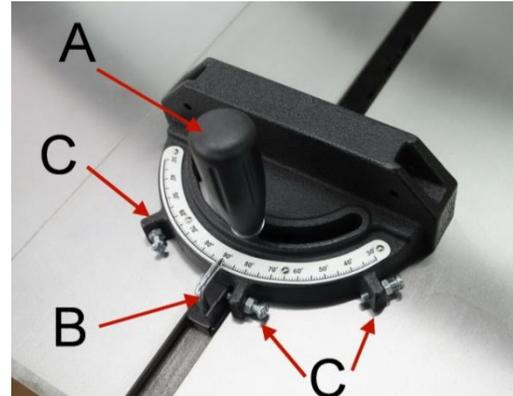

Figure 17
Refer to Figures 17 and 18.
2. Loosen lock handle (A, Figure 17) by turning counterclockwise.
3. Pull out spring-loaded knob (C) and rotate knob until body (B) of miter gauge is at desired angle as indicated on scale.
4. Tighten lock handle (A).
The extension plate (D, Figure 17) can be adjusted by sliding to the right or left or removed entirely. To adjust, loosen two lock handles (E), slide the extension plate and retighten lock handles. **Make sure end of extension plate is not in blade path.** **NOTE:** The lock handles (E) are adjustable. Pull out on handle, rotate it to different position, then release, making sure it seats itself upon the pin.
NOTE: The bar of the miter gauge has two slots with *set screws* (H, Figure 17). Adjust these set screws (4mm hex key) to eliminate any play between bar and miter slot.